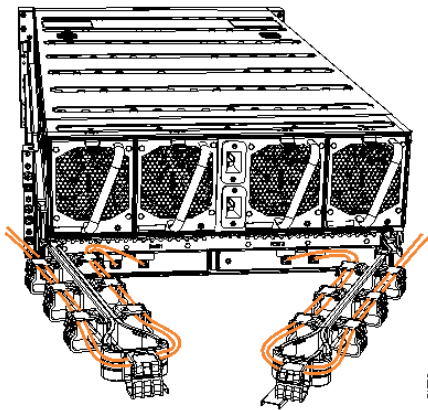

Figure 131. Example of SAS cables routed through the cable management arms
8. Route the SAS cables through the cable management arms, as shown in Figure 131 on page 185.